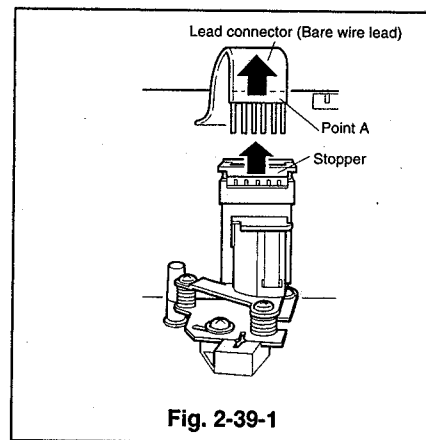

Fig. 2-39-1
- ① Lift the stopper shown in Fig. 2-39-1 upward and disconnect the lead connector (bare wire), which is connected to the PCB-A/C-HEAD.
- ③ Shift part A downward and lower the stopper. Connect the lead connector to the connector on the PCB-A/C-HEAD as shown in Fig. 2-39-1.